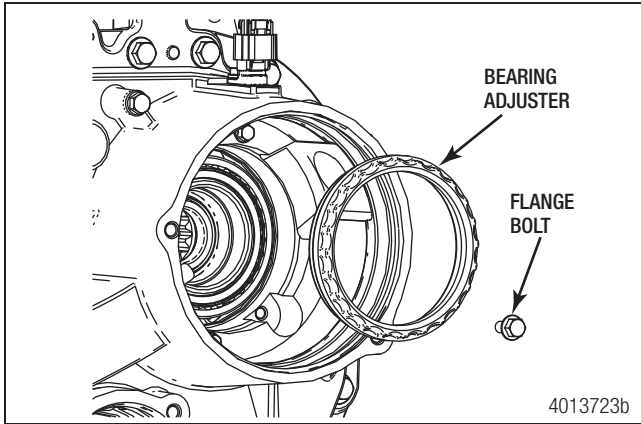

Figure 7.26
9. With the input bearing adjuster ring installed, adjust as necessary using the following steps. Refer to "Tools" on page 60 for adjusting ring tool information. Once the bearing is adjusted, apply Loctite 242 threadlocker to the flange bolt threads and install the bolt to secure the bearing adjusting ring in place. Figure 7.26.